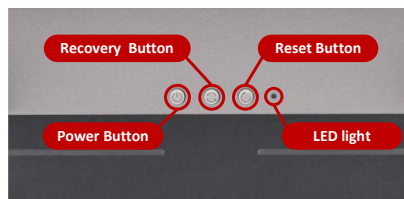

Figure 6.14. AGX Thor Recovery, Reset, and Power Button
- c. Press and hold the Recovery Button (see Figure 6.14 for location).
13. After flashing is complete, a full reboot is required (power off, then power on the Jetson AGX Thor, see the power button location in Figure 6.14).